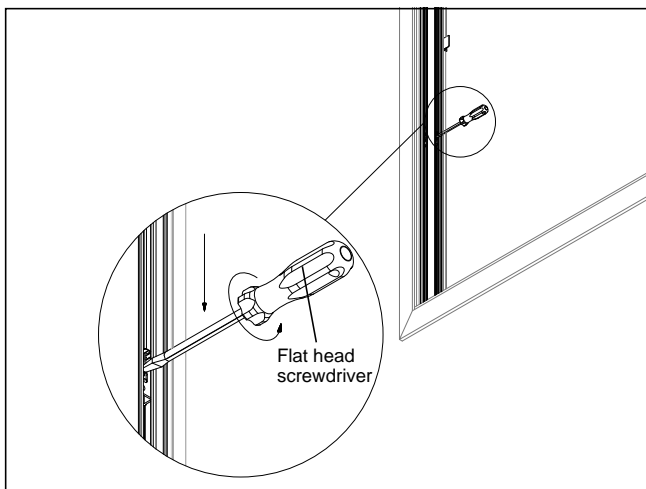

Figure 7
- Using a flat screwdriver and holding it **firmly**, pull down the four locking terminal assemblies located in the vinyl jamb liners (2 per liner), approximately 8"-10" (203-254) from the sill. See figure 7. Engage in locked position by rotating the top of screwdriver toward interior. **Be sure terminals are in the locked position before letting go.**